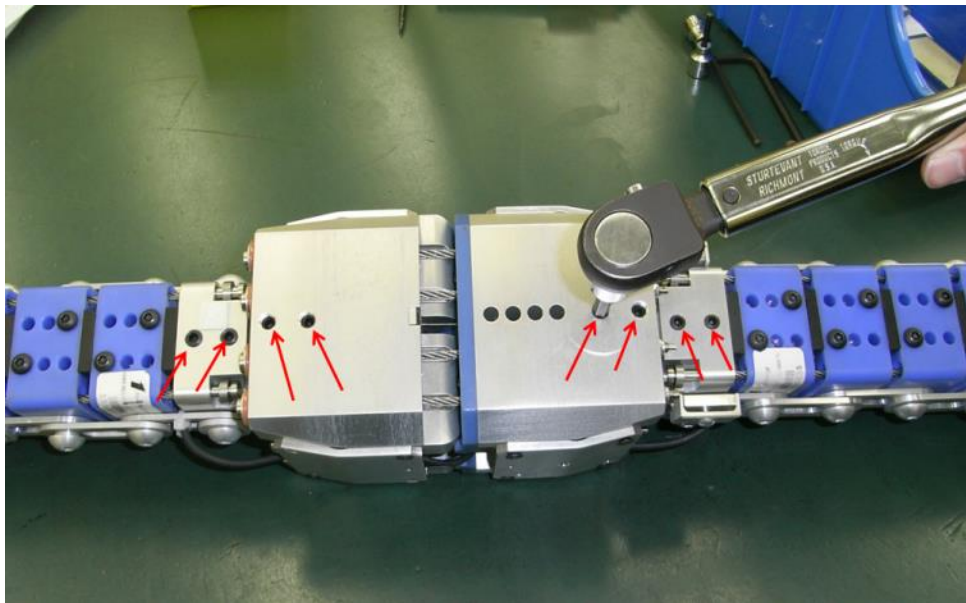

Figure 91 Check screws with 8 Nm torque
Locate the femur insert into the femur knee block, the femur insert is 3mm longer than the tibia insert so it is important the correct insert is in the correct knee block or results will be wrong. Fit 2x M8 x 35 BHCS and tighten, then fit the 2x M8 x 30 set screws on the opposite side and torque all screws to 8 Nm. Follow the same procedure for the tibia insert. Assemble the fixture as shown ensuring the impact side is on the top and the two blue plastic covers have been removed along with the accelerometer if fitted and double-sided tape. It is important to check that the two knee blocks are aligned before starting the test to remove any shear or twist in the assembly. A procedure like that used in figure 91 can be used and double checked with a straight edge.
Step 5: Check knee blocks are aligned to ensure knee is not twisted or in a shear condition before the test. Using two equal height blocks push down on the back of the knee for y direction and also on one side of the knee for x direction as shown in Figure 91. A straight edge can be used to double check alignment after any adjustment.